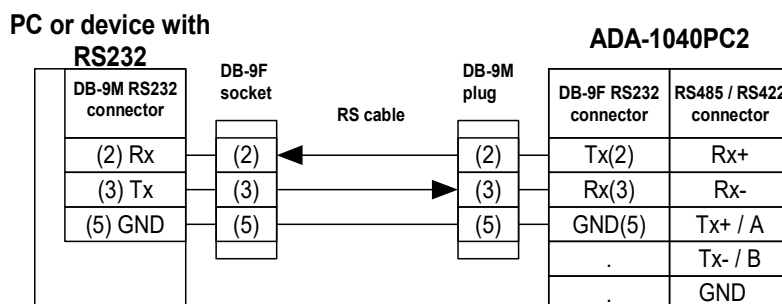

Fig.4. ADA-1040PC2 connection to PC or device with RS232 by the use of cable
- RS232 port of computer or device, should make a cable accordance to Fig.4